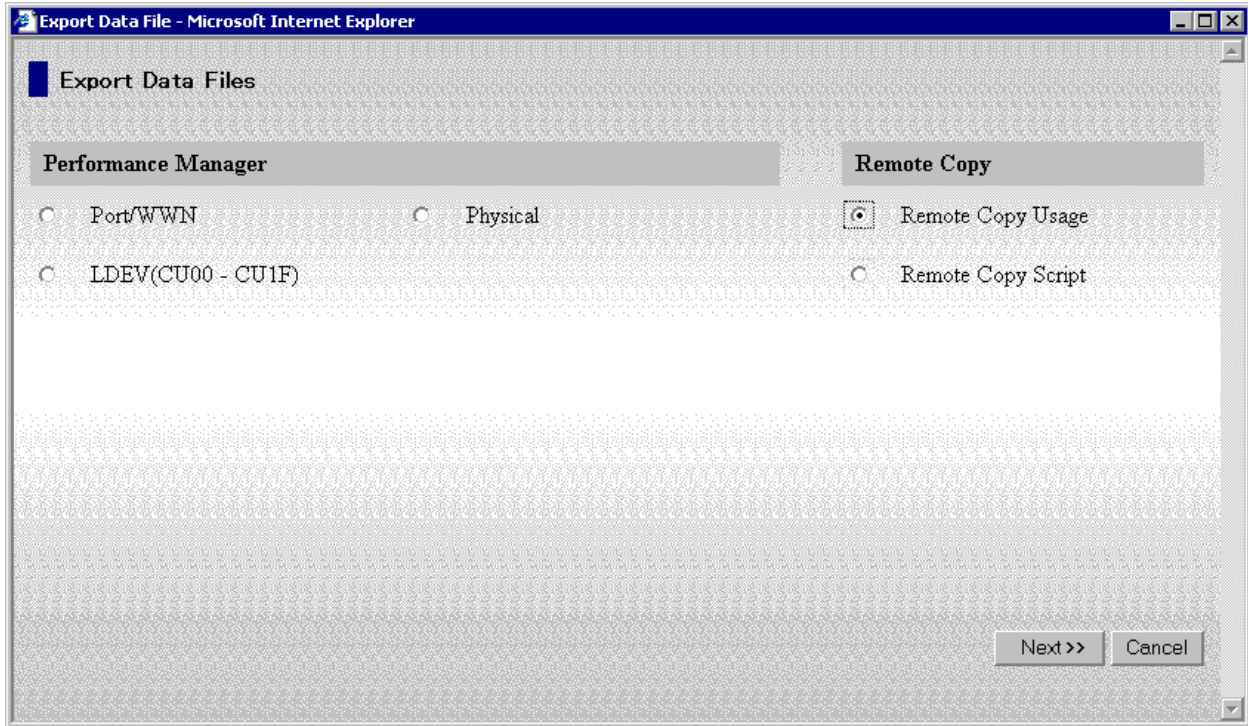

Figure 4.35 Export Data Files Panel
2. Select the **Export File** button (📄) on the Hitachi Remote Console - Storage Navigator main panel to open the Export Data Files panel (see Figure 4.35).
2. Select the **Export File** button () on the Hitachi Remote Console - Storage Navigator main panel to open the Export Data Files panel (see Figure 4.35).